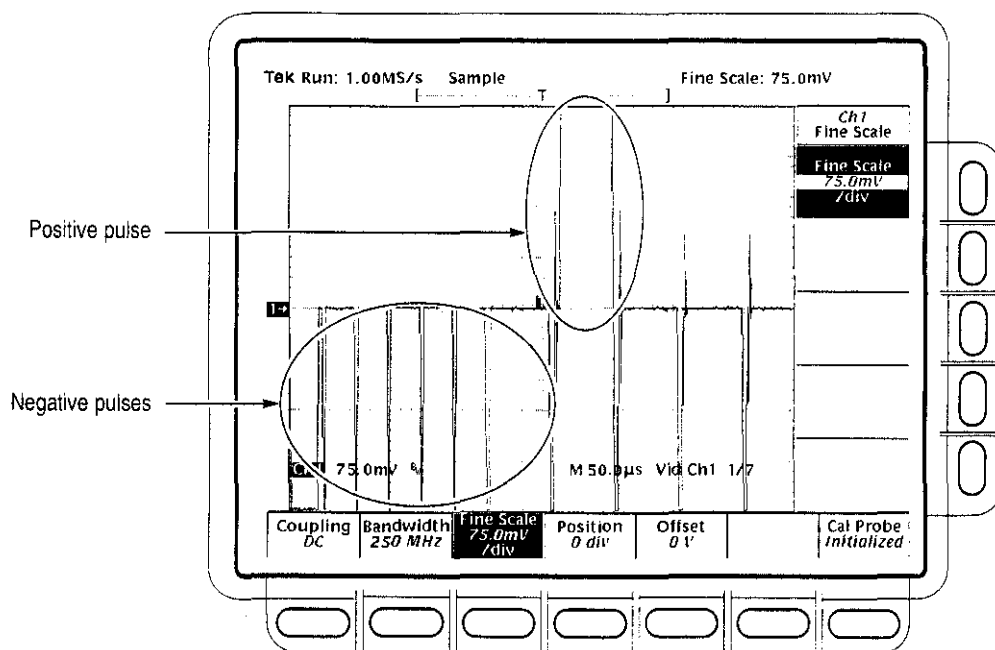

Figure 1-29: Triggered Signal Range Test – 75 mV
- o. CONFIRM that the **TRIG'D** LED stays lit and that the waveform on screen is stable. i.e.; does not move horizontally or vertically. Also, CONFIRM that the waveform on the screen has one positive pulse and a number of negative pulses. See Figure 1-29.